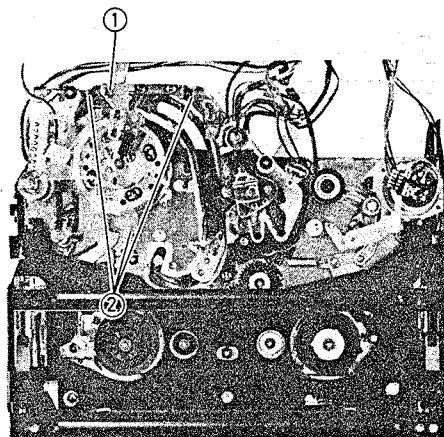

Fig. 2-91 Catcher Block Removal
Catcher Block Removal (Figs. 2-91, 2-92)
1. Remove one (1) screws holding the cylinder motor brush. (See Fig. 2-91)
1. Remove the cylinder motor brush. (See Fig. 2-91)